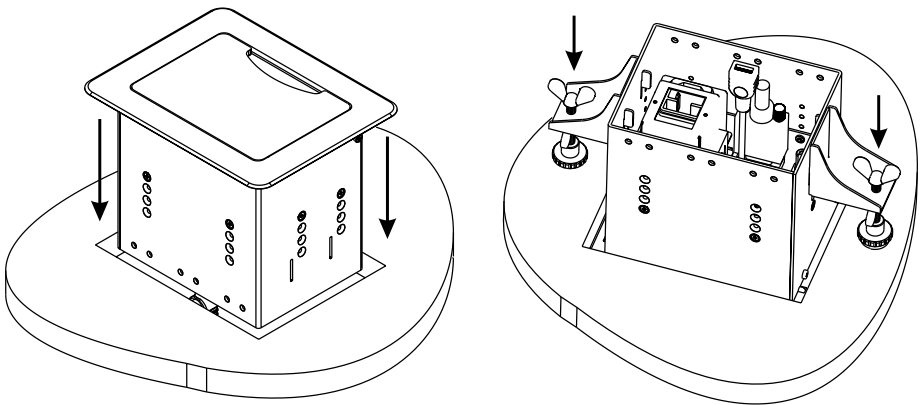

Figure 5: Inserting TBUS-1 into the Prepared Opening
1. Carefully insert the unit into the prepared opening (see *Figure 5*).
4. Screw both mounting butterfly screws upward until they reach the table surface (from underneath). Tighten firmly (see *Figure 5*).